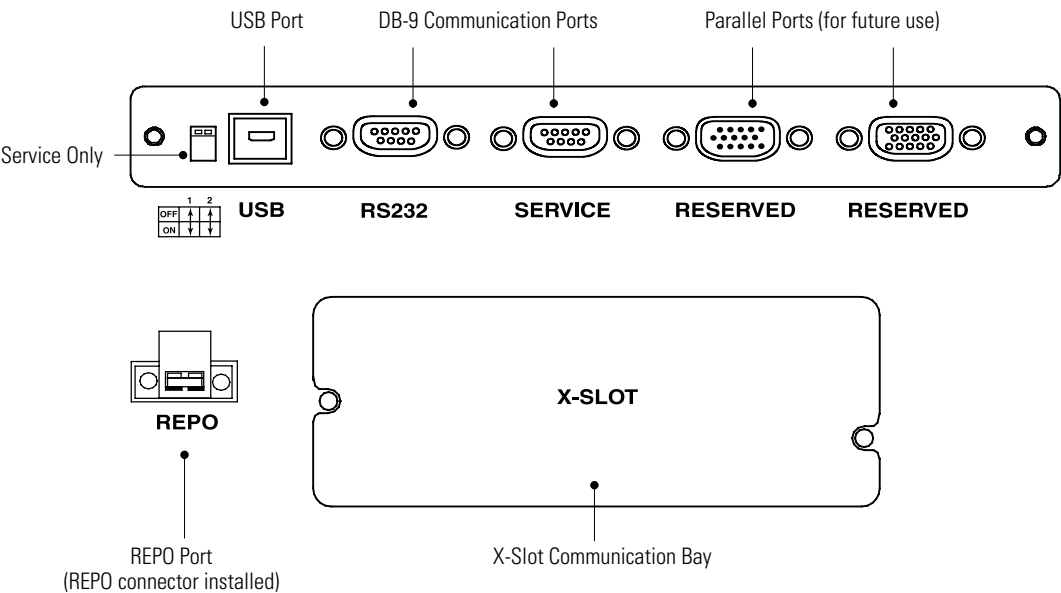

Figure 38. Communication Options
The Powerware 9140 UPS is equipped with a USB port, a REPO port, two DB-9 communication ports, and an X-Slot communication bay (see Figure 38). Two parallel ports are available for future use.
1. The USB port is hot-pluggable. Connect the USB cable to the USB port on the UPS rear panel (see Figure 38).
To establish communication between the UPS and a computer, connect your computer to the RS-232 UPS communication port using the supplied serial communication cable (see Figure 38 on page 81).
See Figure 38 on page 81 for the location of the X-Slot communication bay.